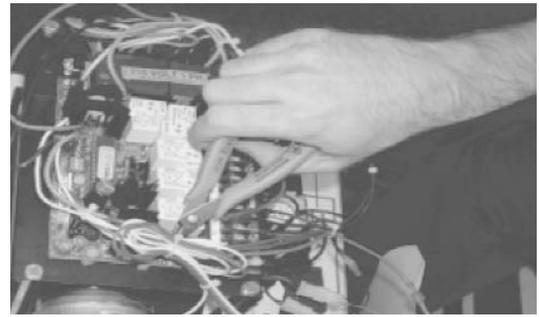

Figure 6
2. Remove red wire from J19 on the existing logic board (Figure 6). Connect the red wire to J3 on the charging circuit board to the wire removed from J19 on the logic board (Figures 2 & 6).
2. Replace the loose red wire on J13 of the logic board (Figure 6).